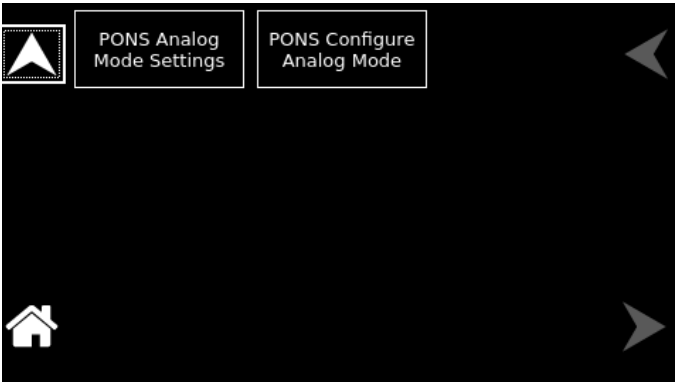

Figure 10-170. PONS Analog Screen
**PONS Analog** Configures the PONS Analog programming interface, refer to Figure 10-170.